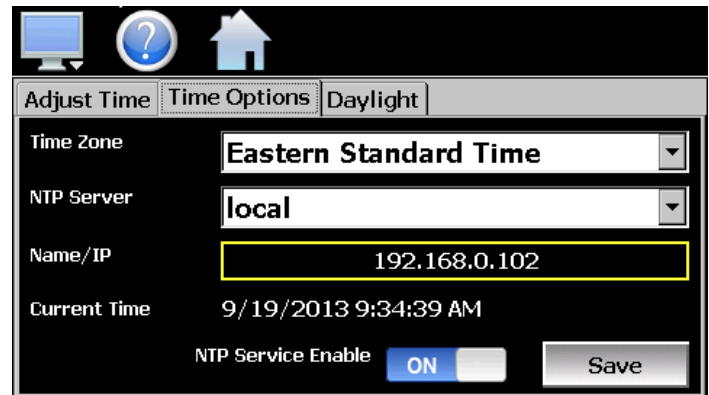

Fig. 103: Time Options Tab
4. Select the TIME OPTIONS tab (Fig. 103) to configure the time zone and national time server clock settings. If the Touch Screen controller is connected to the